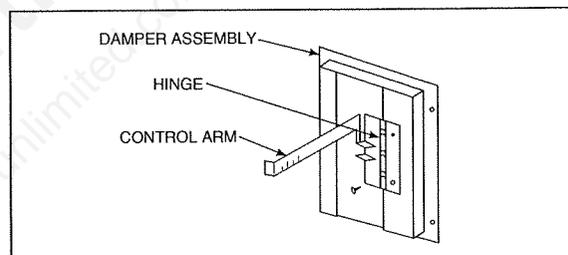

Figure 16
1. Assembling the control arm. Connect the control arm onto the damper hinge using the provided screws. See Figure 16. Remove the access panel on the side of the fireplace you intend to install the air kit. Then pry out the semi-perforated piece of insulation.